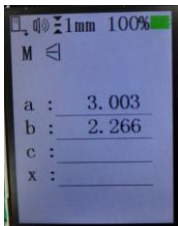

Figure 23
9.6.3 Then measure the second side b (right-angled side), and the measurement result is displayed in the second row, as shown in Figure 23;